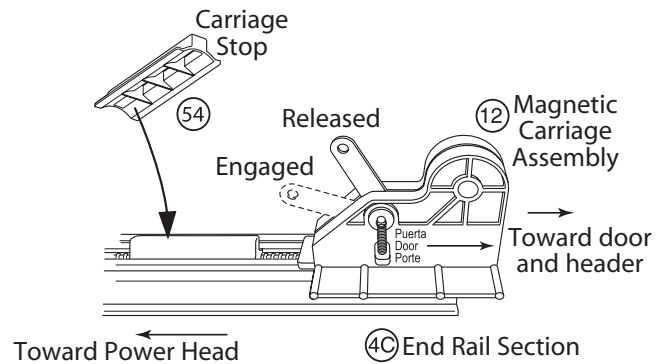

Figure 12 Slide Magnetic Carriage onto Rail
- A** Slide the Carriage Stop into slot on End Rail (**Figure 12**).